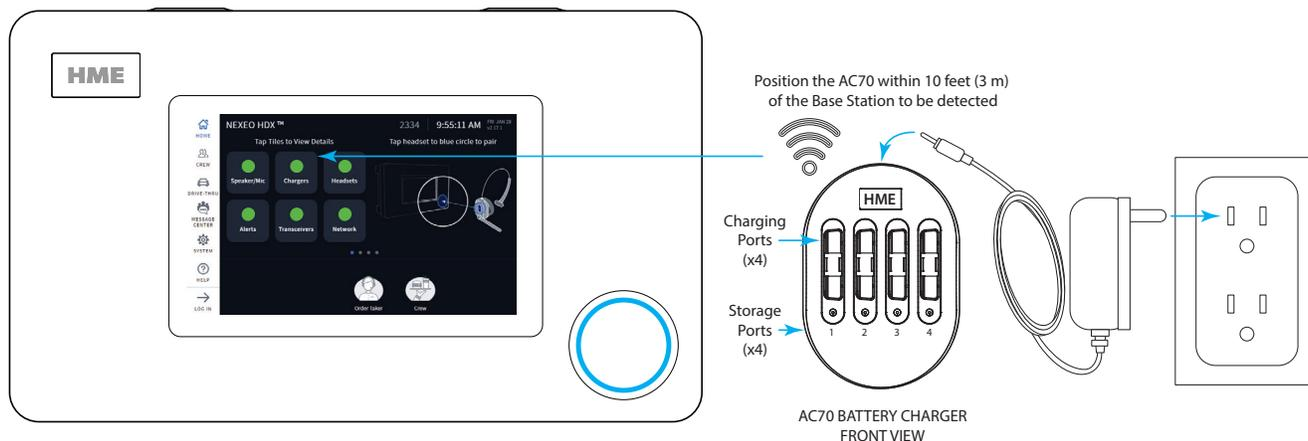

Fig. 1.8
1. Connect the power adapter to the AC70 and plug the other end into a wall outlet. When positioned within 10 feet (3 m) of the Base Station, the **Chargers** indicator on the HOME screen will change from ● (gray) to ● (green), see Fig 1.8.